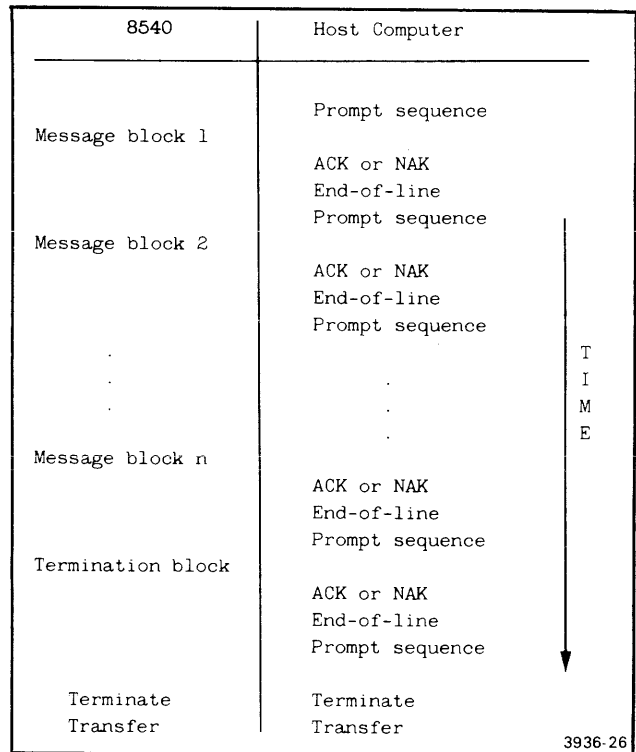

Fig. 4-5. Protocol for formatted uploads.
**Upload Protocol.** After the 8540 transmits a message block to the host, the host computer performs whatever error checking is desired. If no transmission error occurs, the host sends an ACK followed by a prompt to the transmitting 8540. The transmitting 8540 then continues with the formatted transfer by sending the next message block. If the host detects a transmission error, it responds by sending a NAK followed by a prompt to the transmitting 8540. When the transmitting 8540 receives a NAK, it re-sends the message block that was incorrectly received. Figure 4-5 illustrates the protocol for a formatted upload.